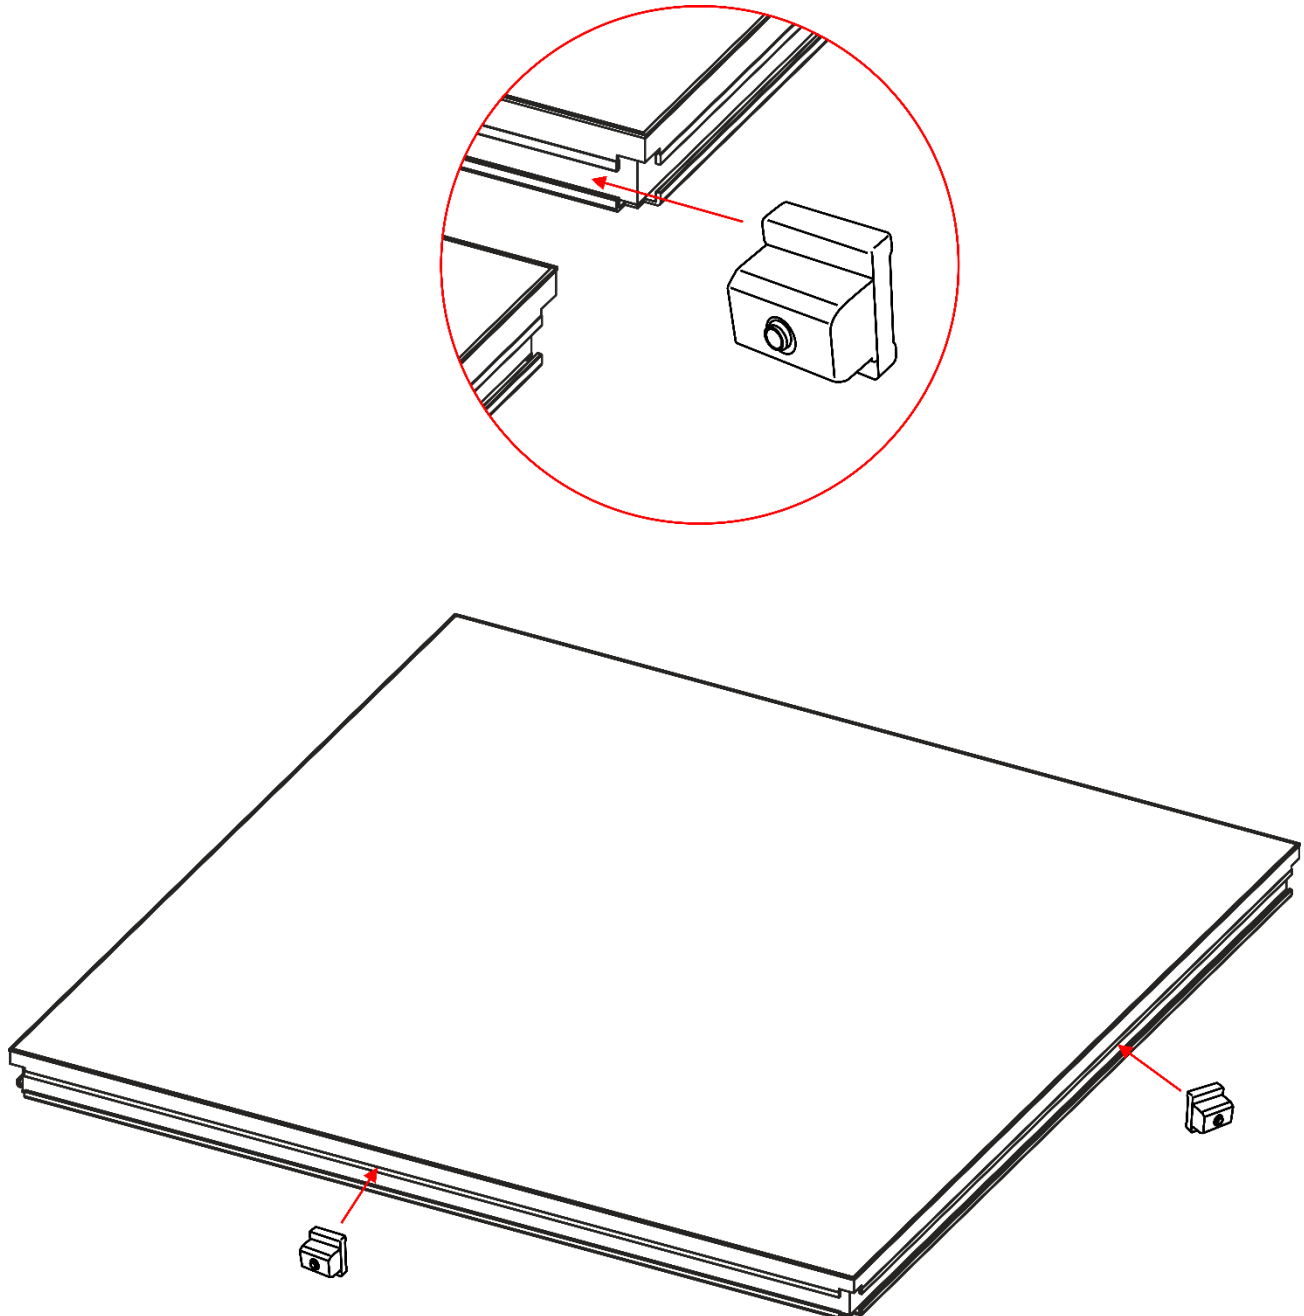

Fig. 04
- 02) In order to level the two sets, insert the Spider Stage Self-leveling Insert (**70637**) in between the two stage decks, in the center of the profile (see fig. 04).